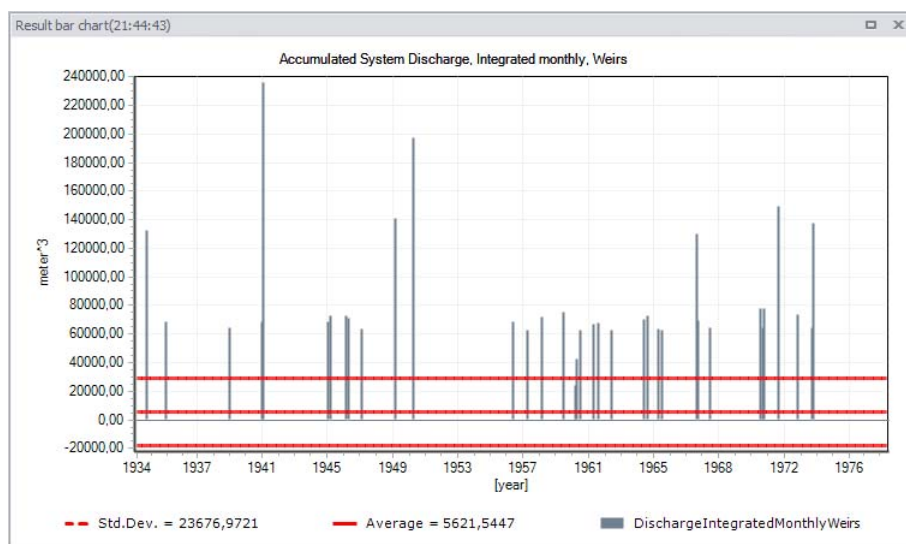

Figure 20.68 Example bar chart plot of monthly weir overflow volumes from LTS chronological statistics results
- Click on the ‘OK’ button to create a new bar chart plot. An example is shown in Figure 20.68.